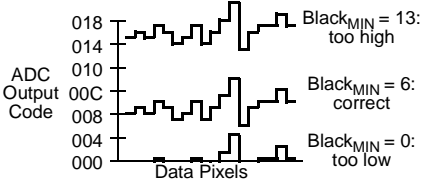

Figure 9: Setting the Static Offset DACs
- Reduce the Offset DAC value for each color so that the minimum black pixel is close to 0, but still greater than 0 (Figure 9). One offset DAC code = -4.2 ADC LSBs, so change the DAC code to (31 - BlackMIN/4.2).